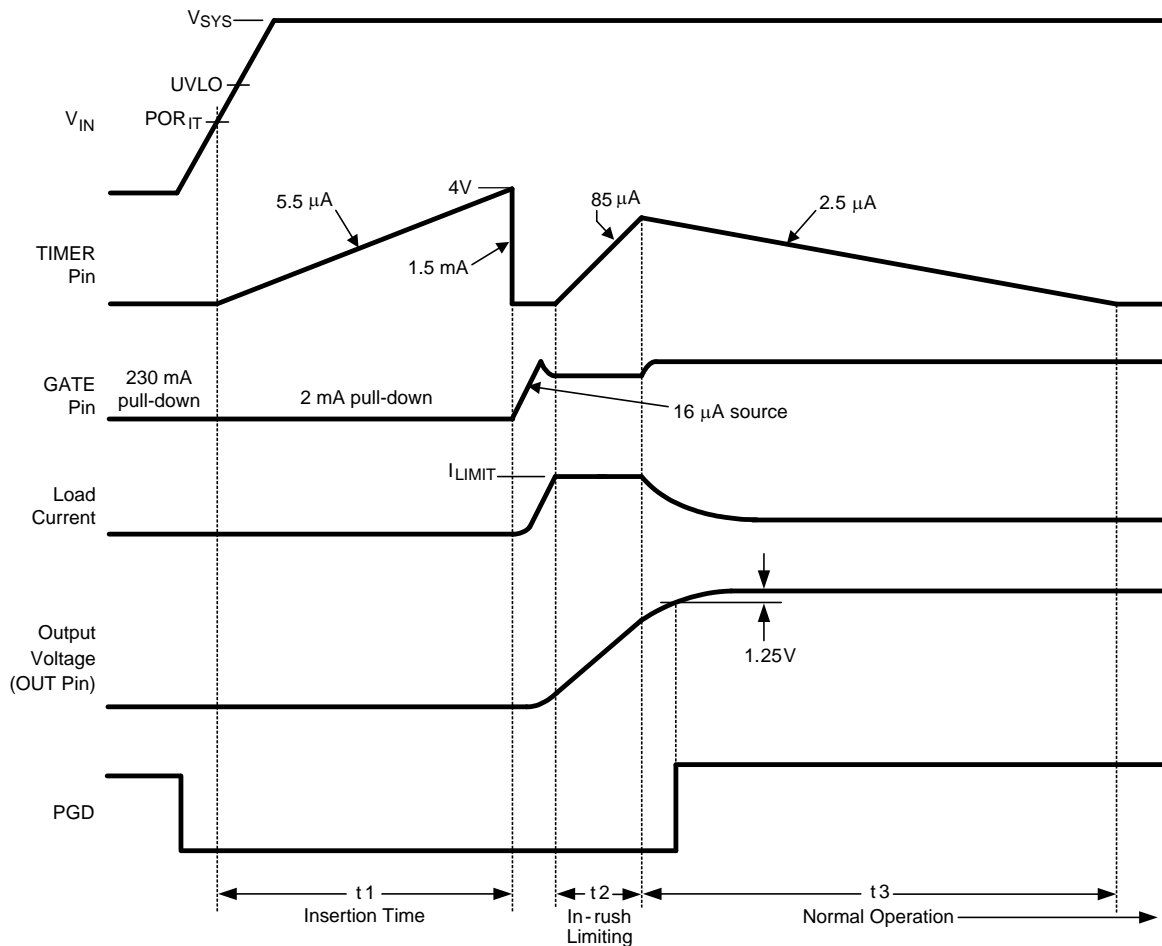

Figure 5. Power Up Sequence (Current Limit only)
The VIN operating range of the LM5069 is +9V to +80V, with a transient capability to +100V. Referring to the Block Diagram and Figure 3 and Figure 5, as the voltage at VIN initially increases, the external N-channel MOSFET (Q1) is held off by an internal 230 mA pull-down current at the GATE pin. The strong pull-down current at the GATE pin prevents an inadvertent turn-on as the MOSFET's gate-to-drain (Miller) capacitance is charged. Additionally, the TIMER pin is initially held at ground. When the VIN voltage reaches the  $POR_{IT}$  threshold (7.6V) the insertion time begins. During the insertion time, the capacitor at the TIMER pin ( $C_T$ ) is charged by a 5.5  $\mu A$  current source, and Q1 is held off by a 2 mA pull-down current at the GATE pin regardless of the VIN voltage. The insertion time delay allows ringing and transients at VIN to settle before Q1 can be enabled. The insertion time ends when the TIMER pin voltage reaches 4.0V.  $C_T$  is then quickly discharged by an internal 1.5 mA pull-down current. After the insertion time, the LM5069 control circuitry is enabled when VIN reaches the  $POR_{EN}$  threshold (8.4V). The GATE pin then switches on Q1 when  $V_{SYS}$  exceeds the UVLO threshold (UVLO pin >2.5V). If  $V_{SYS}$  is above the UVLO threshold at the end of the insertion time, Q1 switches on at that time. The GATE pin charge pump sources 16  $\mu A$  to charge Q1's gate capacitance. The maximum gate-to-source voltage of Q1 is limited by an internal 12V zener diode.
As the voltage at the OUT pin increases, the LM5069 monitors the drain current and power dissipation of MOSFET Q1. In-rush current limiting and/or power limiting circuits actively control the current delivered to the load. During the in-rush limiting interval ( $t_2$  in Figure 5) an internal 85  $\mu A$  fault timer current source charges  $C_T$ . If Q1's power dissipation and the input current reduce below their respective limiting thresholds before the TIMER pin reaches 4.0V the 85  $\mu A$  current source is switched off, and  $C_T$  is discharged by the internal 2.5  $\mu A$  current sink ( $t_3$  in Figure 5). The in-rush limiting interval is complete when the voltage at the OUT pin increases to within 1.25V of the input voltage ( $V_{SYS}$ ), and the PGD pin switches high.
A charge pump provides internal bias voltage above the output voltage (OUT pin) to enhance the N-Channel MOSFET's gate. The gate-to-source voltage is limited by an internal 12V zener diode. During normal operating conditions (t3 in Figure 5) the gate of Q1 is held charged by an internal 16  $\mu$ A current source to approximately 12V above OUT. If the maximum  $V_{GS}$  rating of Q1 is less than 12V, a lower voltage external zener diode must be added between the GATE and OUT pins. The external zener diode must have a forward current rating of at least 250 mA.
During the insertion time (t1 in Figure 5) the GATE pin is held low by a 2 mA pull-down current. This maintains Q1 in the off-state until the end of t1, regardless of the voltage at VIN or UVLO.
Following the insertion time, during t2 in Figure 5, the gate voltage of Q1 is modulated to keep the current or power dissipation level from exceeding the programmed levels. While in the current or power limiting mode the TIMER pin capacitor is charging. If the current and power limiting cease before the TIMER pin reaches 4V the TIMER pin capacitor then discharges, and the circuit enters normal operation.
the 21  $\mu\text{A}$  current source at UVLO is switched off, increasing the voltage at UVLO, providing hysteresis for this threshold. With the UVLO pin above 2.5V, Q1 is switched on by the 16  $\mu\text{A}$  current source at the GATE pin if the insertion time delay has expired (Figure 5). See the Applications Section for a procedure to calculate the values of the threshold setting resistors (R1-R3). The minimum possible UVLO level at  $V_{\text{SYS}}$  can be set by connecting the UVLO pin to VIN. In this case Q1 is enabled when the VIN voltage reaches the  $\text{POR}_{\text{EN}}$  threshold.
**A) Insertion Delay** - Upon applying the system voltage ( $V_{SYS}$ ) to the circuit, the external MOSFET (Q1) is held off during the insertion time ( $t_1$  in Figure 5) to allow ringing and transients at  $V_{SYS}$  to settle. Since each backplane's response to a circuit card plug-in is unique, the worst case settling time must be determined for each application. The insertion time starts when  $V_{IN}$  reaches the  $POR_{IT}$  threshold, at which time the internal 5.5  $\mu A$  current source charges  $C_T$  from 0V to 4.0V. The required capacitor value is calculated from: